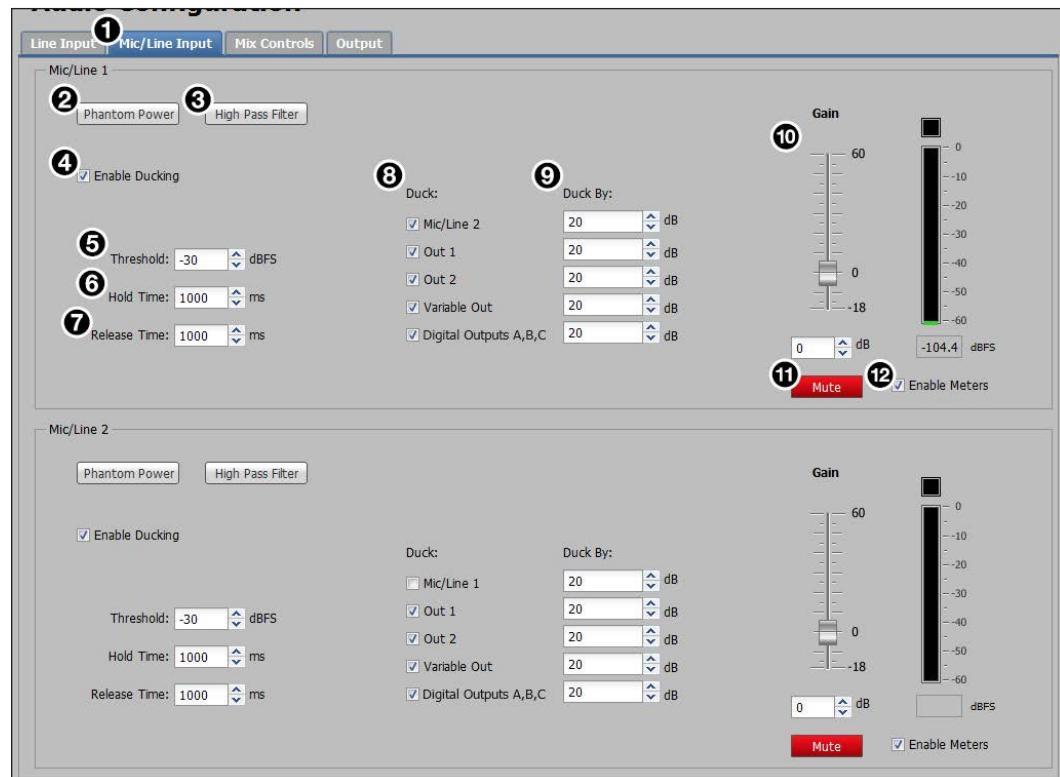

Figure 72. Mic/Line Input Tab
1. Click the **Mic/Line Input** tab (see **figure 72**, ① on the previous page).
2. In the Mic/Line input panel for the desired microphone input, click the **Phantom Power** button (②). The button turns blue when enabled.
1. Click the **Mic/Line Input** tab (see **figure 72**, ① on page 101).
2. Adjust the level using any of the following methods (⑩):
3. To mute the mic/line gain, click the **Mute** button (⑪) below the mic/line Gain fader.
2. From the desired Mic/Line input panel, select the **Enable Ducking** check box (④). The following ducking options become available:
3. In the **Threshold** field (⑤), adjust the value by one of the following methods:
4. In the **Hold Time** field (⑥), adjust the value by one of the following methods: